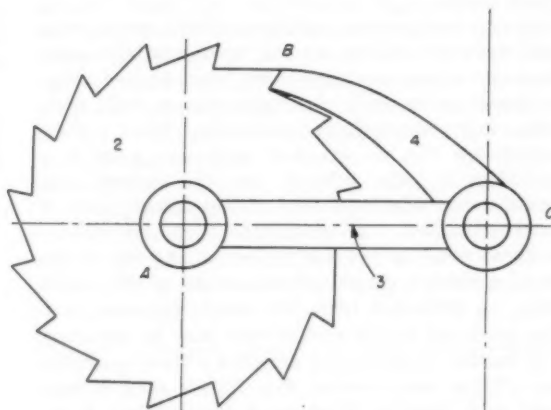
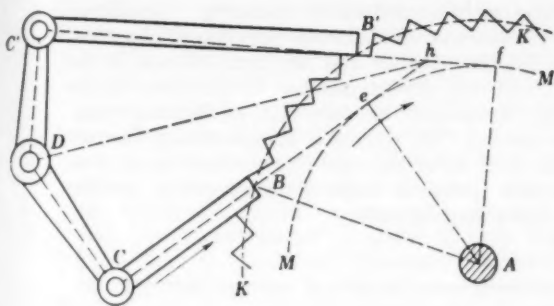

Fig. 17 — Simple ratchet wheel and pawl.
Fig. 18—Double-acting rotary ratchet.
Class 2, rotary reciprocating (oscillating) driver with rotary intermittent driven member, immediately suggests the simple ratchet, Fig. 17. It may be constructed as an internal or an external ratchet. The use of two pawls and an oscillating lever permits two driven strokes for each complete oscillation of the driver, Fig. 18. This principle may be applied whether the shafts are parallel or intersecting.
17. V. L. Doughtie and W. H. James—*Elements of Mechanism*, John Wiley & Sons, 1954, Pages 433-453. (Figs. 17, 18)